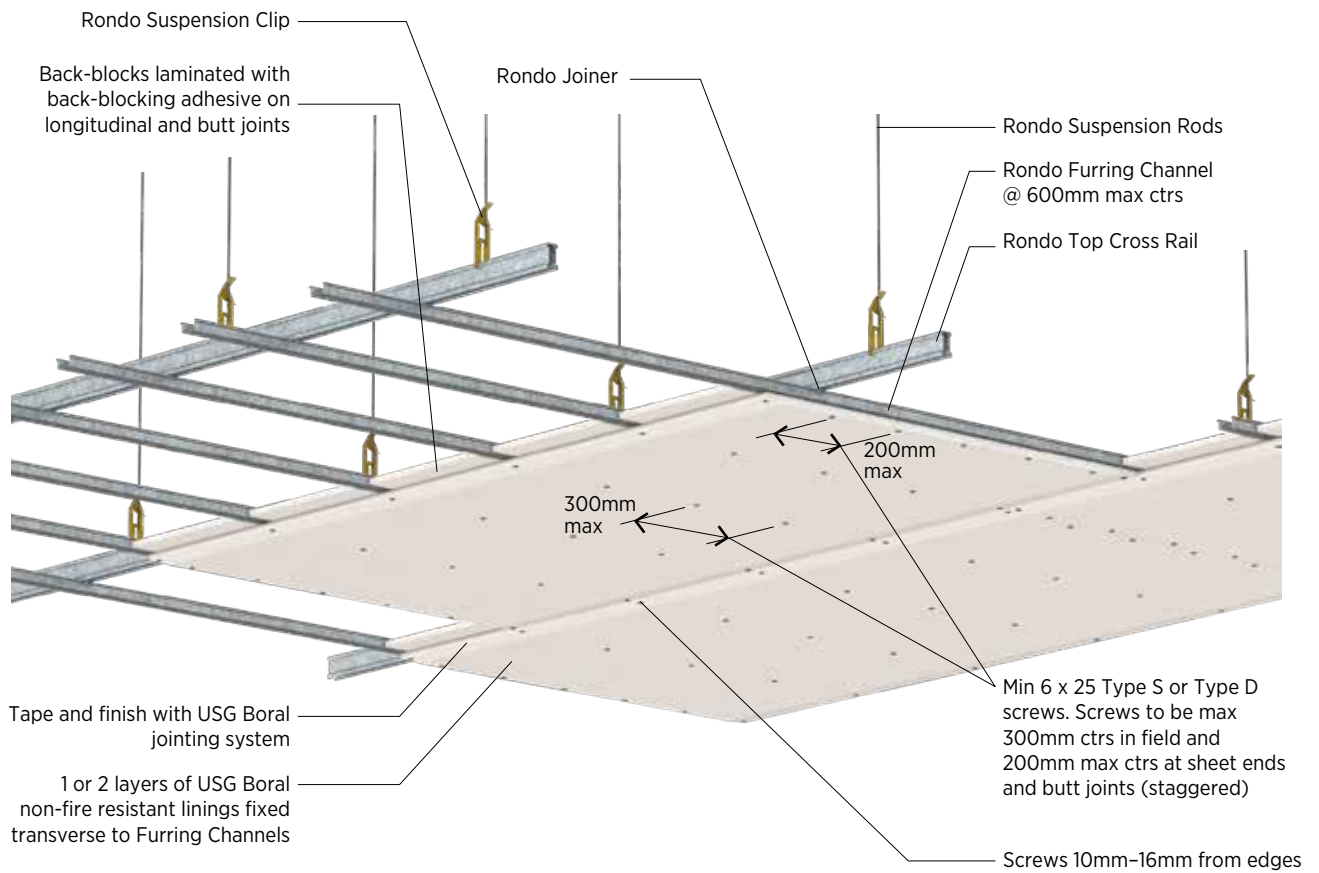

Figure G7: Non-Fire Rated Ceiling – Screw Fixing Layout
- Single layer non-fire rated plasterboard ceiling systems can be fixed using combination of Adhesive and Mechanical Fasteners as outlined in USG Boral Installation Manual (see Figure G7) or Mechanical Fasteners Only.